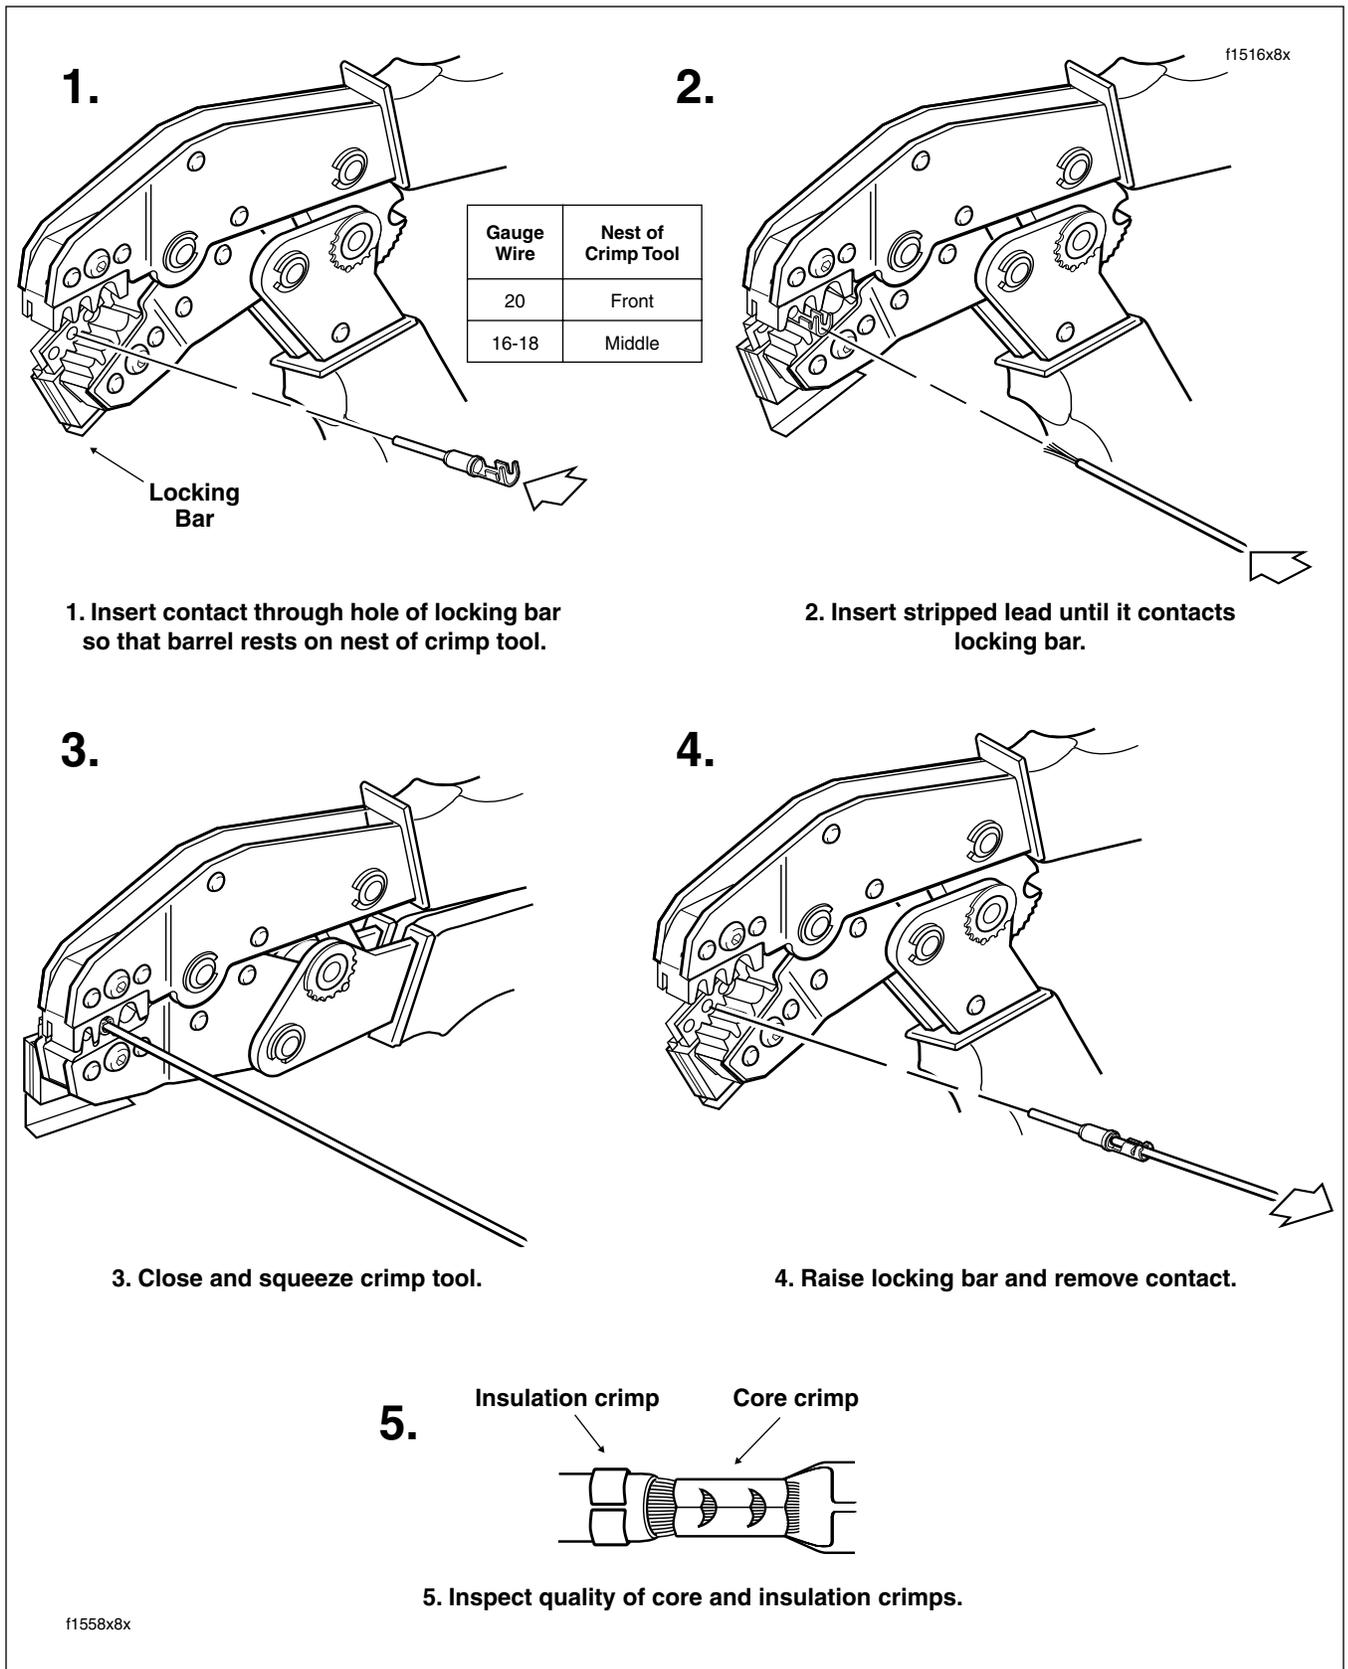

Figure 8-7. Deutsch Crimping Procedure
2. Squeeze the handles to cycle the crimp tool to the fully open position. See Figure 8-7.